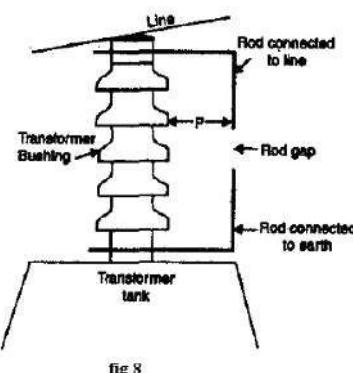

fig 8
- The string of insulators for an overhead line on the bushing of transformer has frequently a rod gap across it. Fig 8 shows the rod gap across the bushing of a transformer. Under normal operating conditions, the gap remains non-conducting. On the occurrence of a high voltage surge on the line, the gap sparks over and the surge current is conducted to earth. In this way excess charge on the line due to the surge is harmlessly conducted to earth